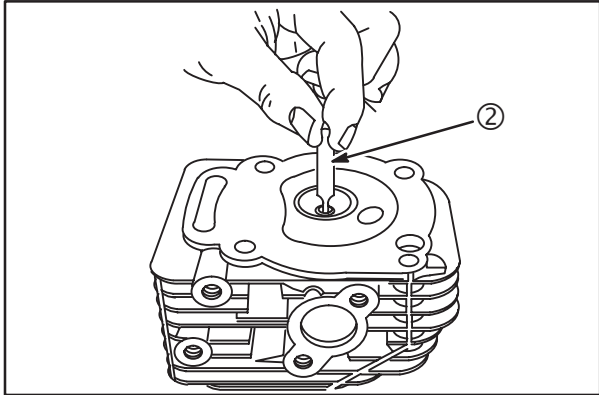

Fig. 10
2. Check valve guide bushings for wear using Plug Gauge (2) #19382, Fig. 10. Replace valve guide if gauge enters guide 1/4" (6 mm) or more.